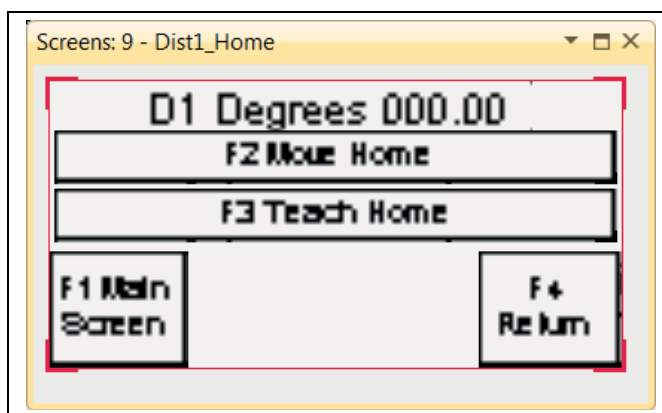

Figure 5X
11. After pressing the **F3** Home Screen key, the following screen will appear. (See Figure 5X.)